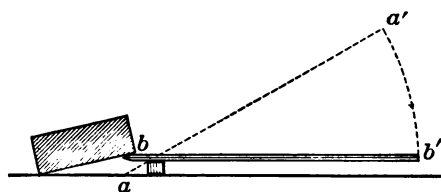

FIG. 81
*work.* The amount of work is measured by the product of force times distance (§ 87): if, as in Fig. 81, by using a small force